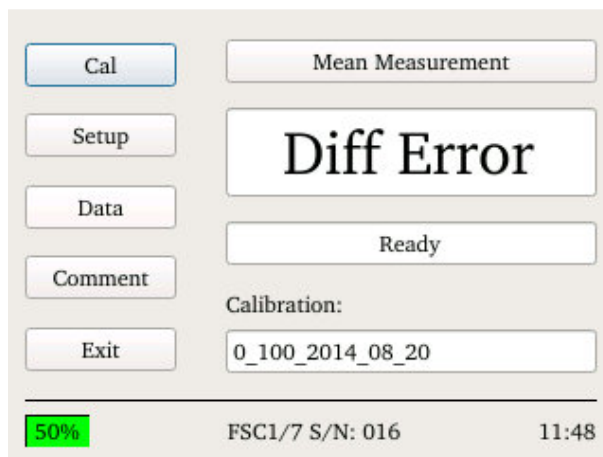

Figure 26: Diff Error
2. If the measurement was not successful, the system gives a message as shown in Figure 26.